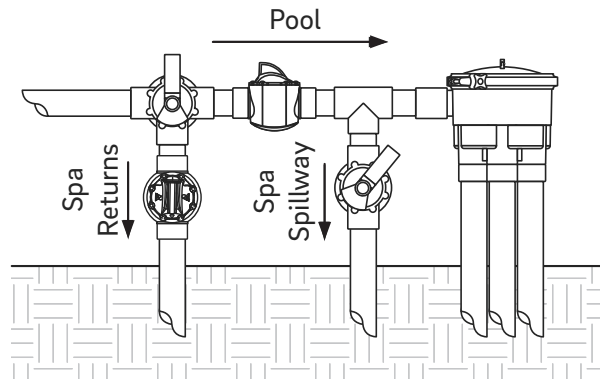
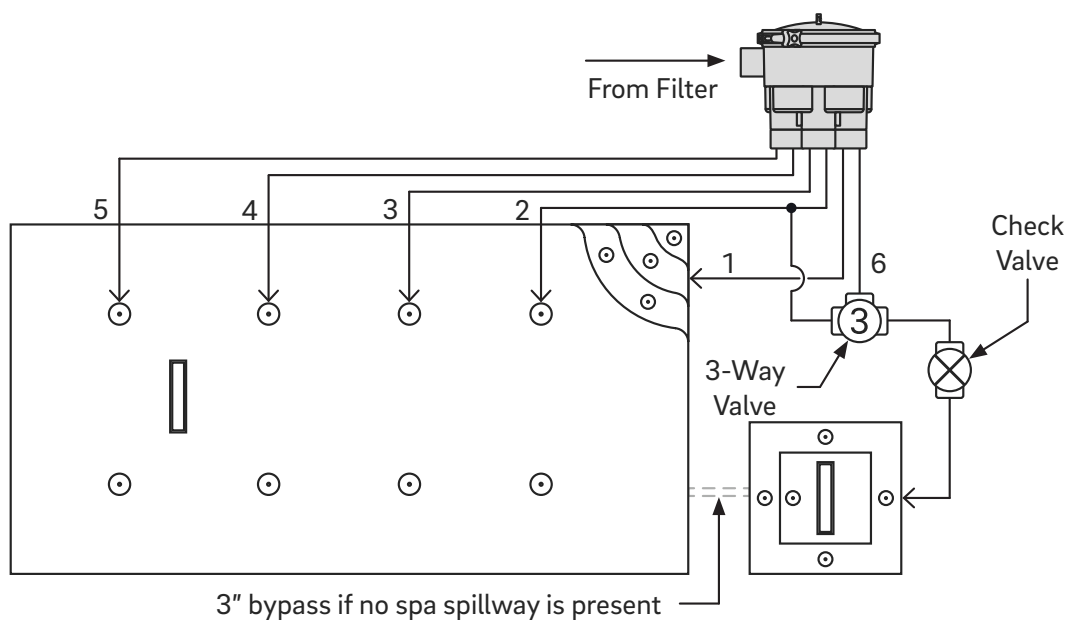

Figure 6
Figure 7
1. If the spa shares common equipment with the pool, refer to the diagram provided (Figure 6 & Figure 7) for the proper method of plumbing.